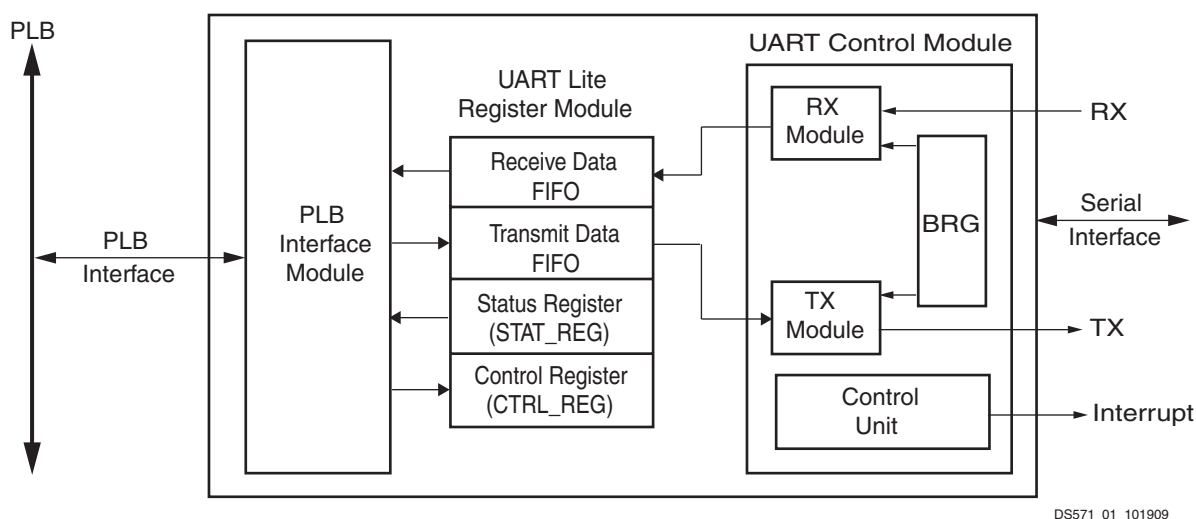

Figure 1: Block Diagram of XPS UART Lite
The XPS UART Lite modules are shown in the top-level block diagram in Figure 1.
**UART Lite Register Module:** The Register Module includes all memory mapped registers (as shown in Figure 1). It interfaces to the PLB through the PLB Interface Module. It consists of an 8-bit status register, an 8-bit control register and a pair of 8-bit Transmit/Receive FIFOs. All registers are accessed directly from the PLB using the PLB Interface Module.